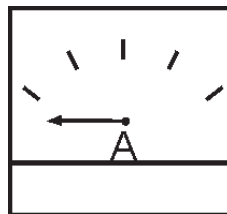

Figure 48. Ammeter (No Load)
11. The ammeter (Figure 48) will indicate zero amps with no load applied. When a load is applied, the ammeter will indicate the amount of current that the load is drawing from the generator.